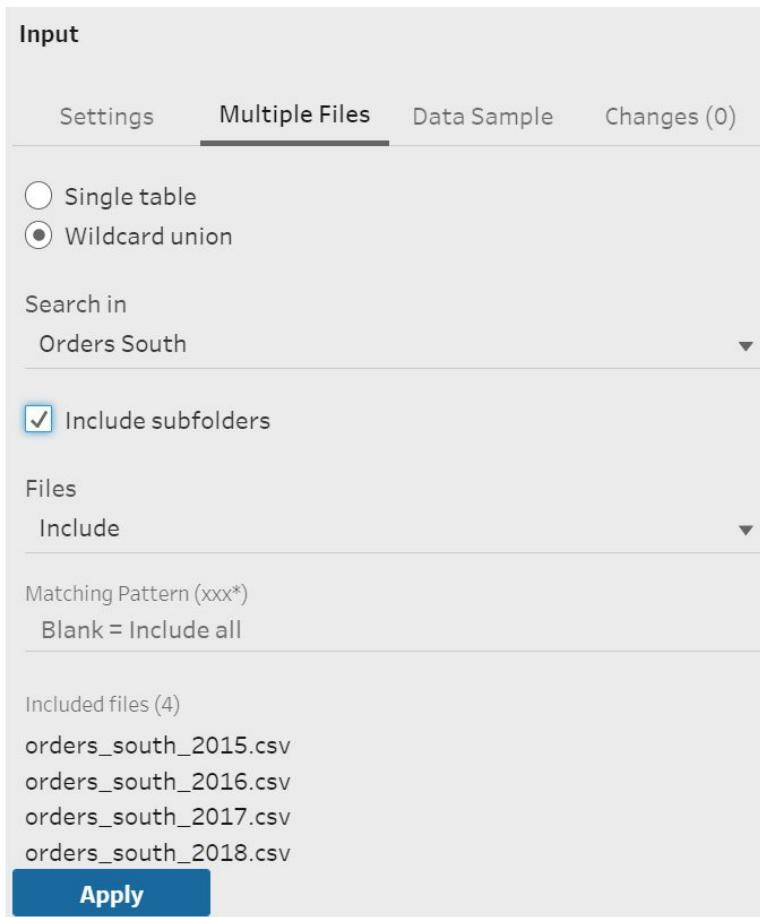

Figure 3.13: Wildcard search for multiple file input
1. Now, change the selection to `Wildcard union`. Suppose you want to get all the `orders_south` files from the folder. You can simply search it by a pattern (`*south*`) and get all the files you want to find (Figure 3.13).